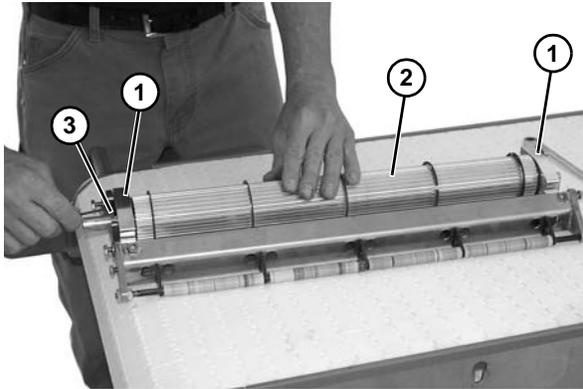

Figure 41
- Center shaft assembly, so that there is equal space between each bracket (**Figure 41, item 1**) and roller (**Figure 41, item 2**). Tighten set screws (**Figure 41, item 3**).